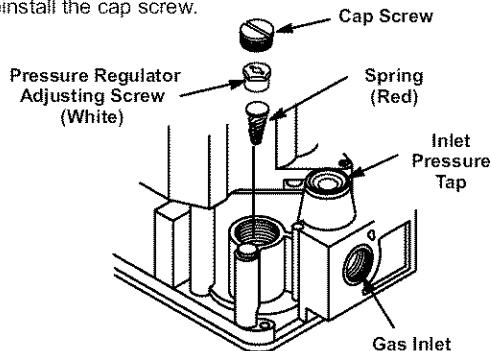

FIGURE 3
- 6 - Identify the gas valve in the unit, and install the appropriate gas valve conversion kit. See figure 2 for the White Rodgers 36G gas valve and figure 3 for the Honeywell VR8205 gas valve. Also, refer to the manufacturer's instructions packed in the valve conversion kit.